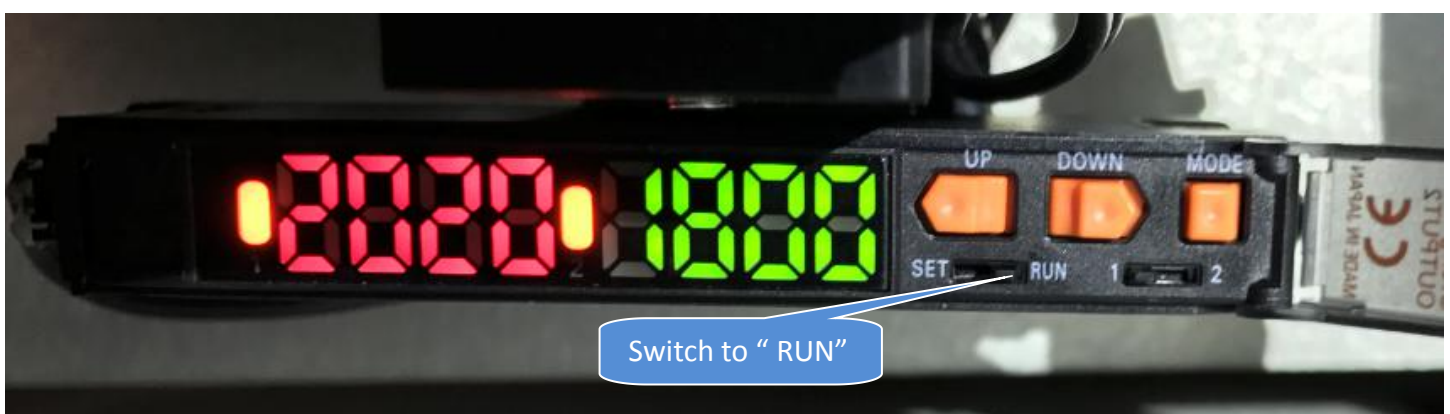

Figure 22 “RUN” Mode
25. Press “MODE” button again and ignore the other setting until the display back to the teaching interface as below Figure 22